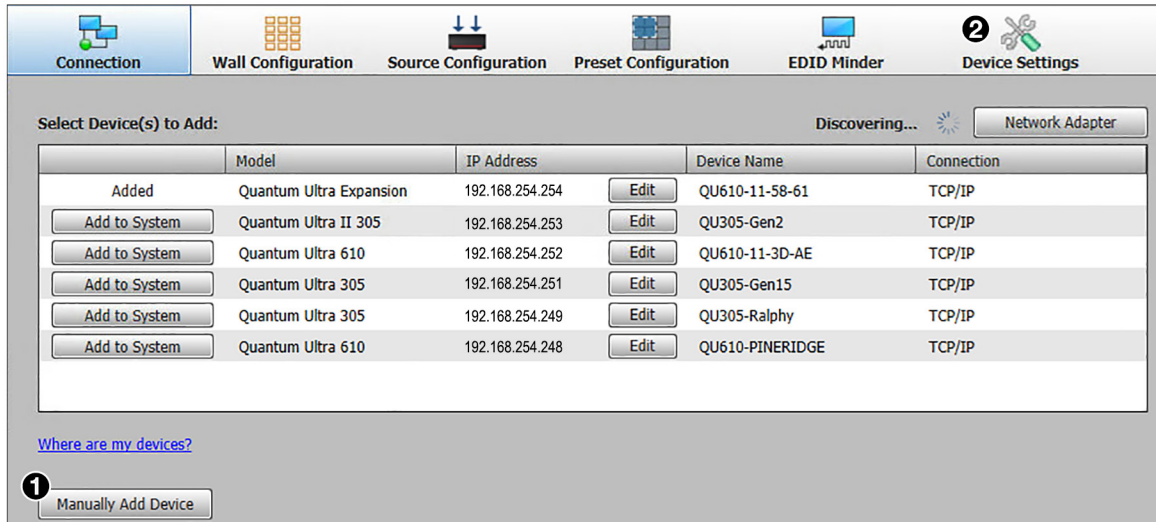

Figure 85. Manually Add Device Button on the Connection Screen
3. On the **VCS Connection** screen, click the **Manually Add Device** button (see figure 85, ①).